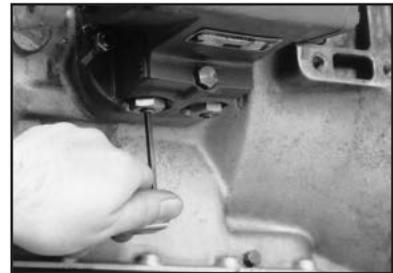

Figure 11
8. There are two (2) large drilled and tapped holes on the 230, 270 and 800 Series PTO housing (See Fig. 11). These two holes come with plugs installed (Fig. 11). The 852 Series has one (1) drilled and tapped hole in the inspection plate.